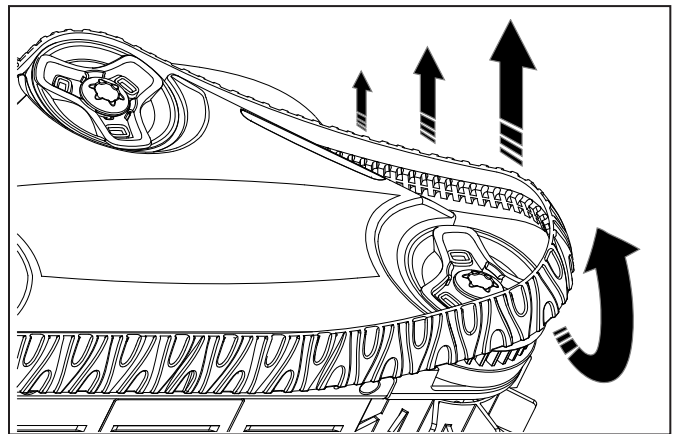

Figure 30. Pull the Track Over Wheels to Remove
2. Starting at one of the wheels, pull on the inside of the track to separate the tire lip from the wheel (see Figure 30). Remove the track from the cleaner.